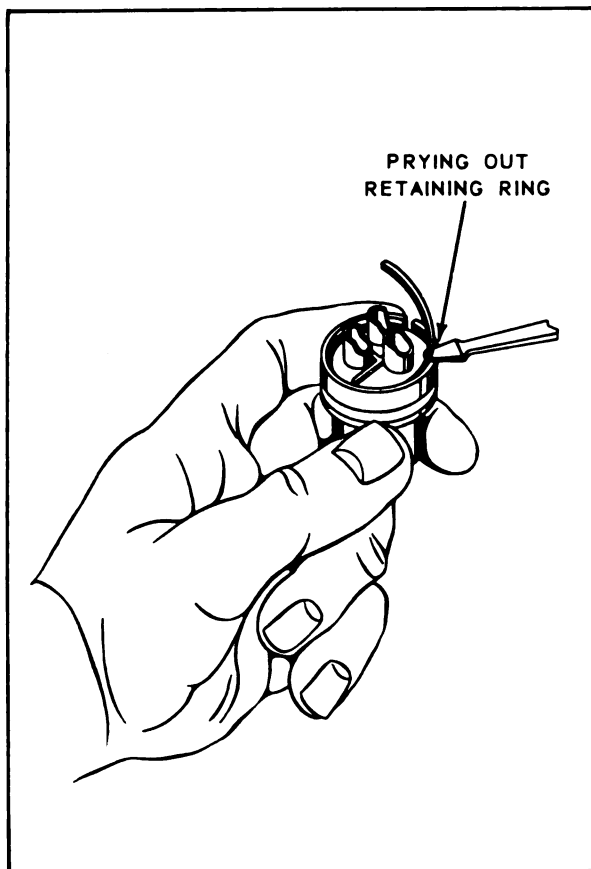

Figure 3-20. Removal of Amphenol Insert Assembly
- Amphenol two piece inserts have contacts which are held in place by the insert halves. See figures 3-20 and 3-21. Pry out retaining ring which holds insert in place with small screw driver. Remove inserts and separate them. This will free contacts.